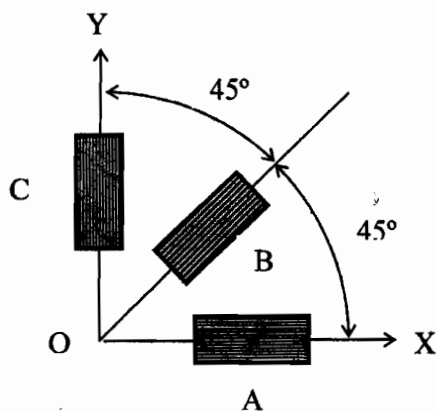

Figure Q2
- 2 At a point on the surface of an aluminium component a  $45^\circ$  rosette strain gauge, orientated as shown in Figure Q2, indicated strains of  $\epsilon_A = 400 \mu\epsilon$ ,  $\epsilon_B = 300 \mu\epsilon$ , and  $\epsilon_C = -200 \mu\epsilon$ . Determine:-